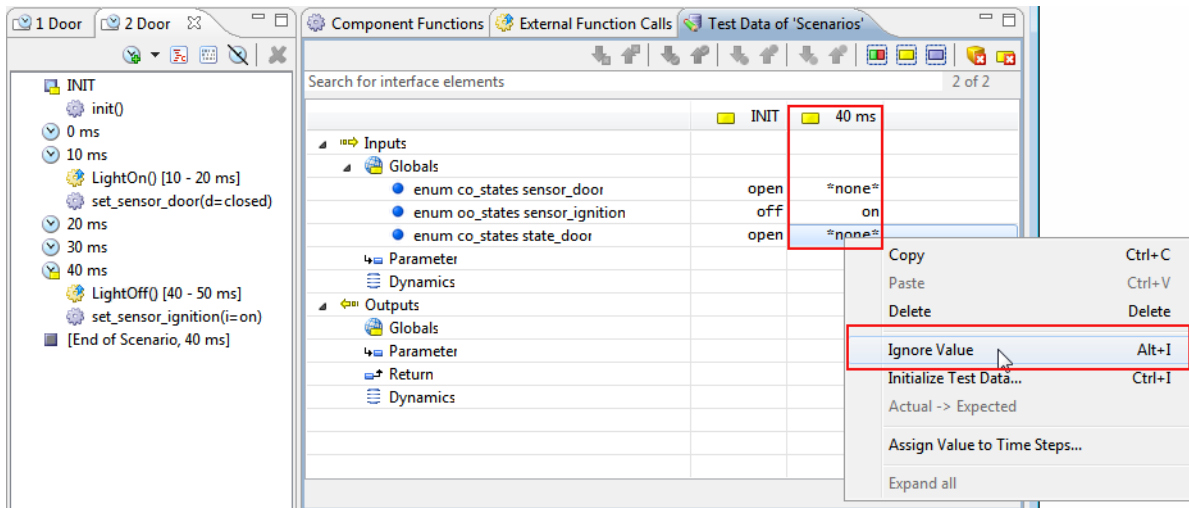

Figure 5.90: Setting values to “ignore”
- Select the 40 ms time step: The Test Data view will show a new column named “40 ms.” Set the value of the variable “sensor_ignition” to “on” and set the other values to be ignored (see figure 5.90).